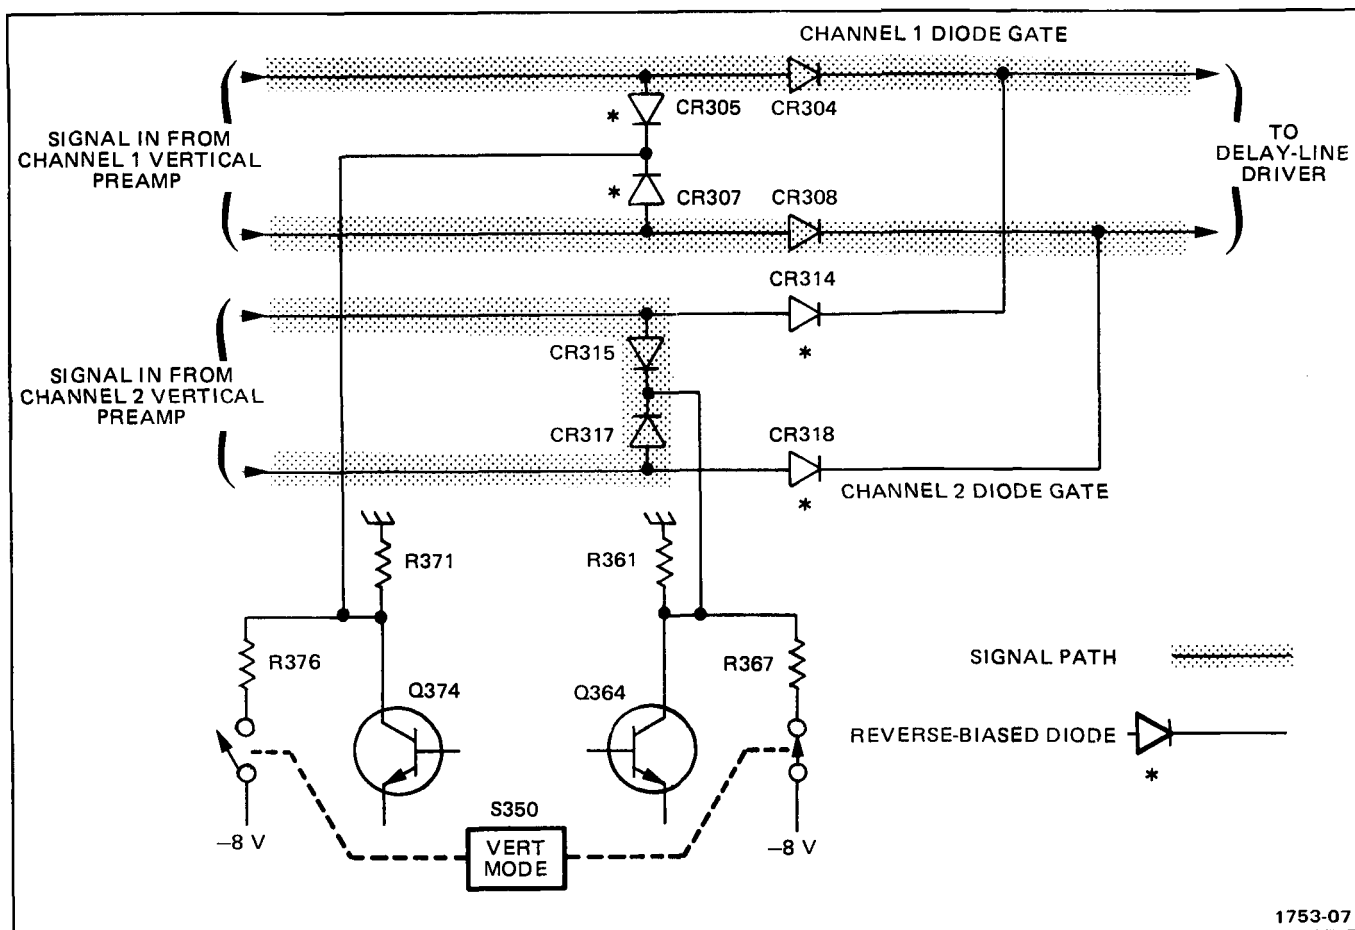

Fig. 3-4. Diode Gate Conditions in Channel 1 Mode.
**Channel 1 Only Display.** When the CH 1 pushbutton is pressed, -8 volts is applied to the junction of CR315-CR317 in the Channel 2 Diode Gate through R367 (see simplified diagram in Fig. 3-4). This forward biases CR315 and CR317 and reverse biases CR314 and CR318. CR314 and CR318 block the Channel 2 signal so it cannot pass to the Delay Line Driver stage. At the same time in the Channel 1 Diode Gate, CR305 and CR307 are connected to +5 volts through R371. CR305 and CR307 are held reverse-biased while CR304 and CR308 are forward biased.